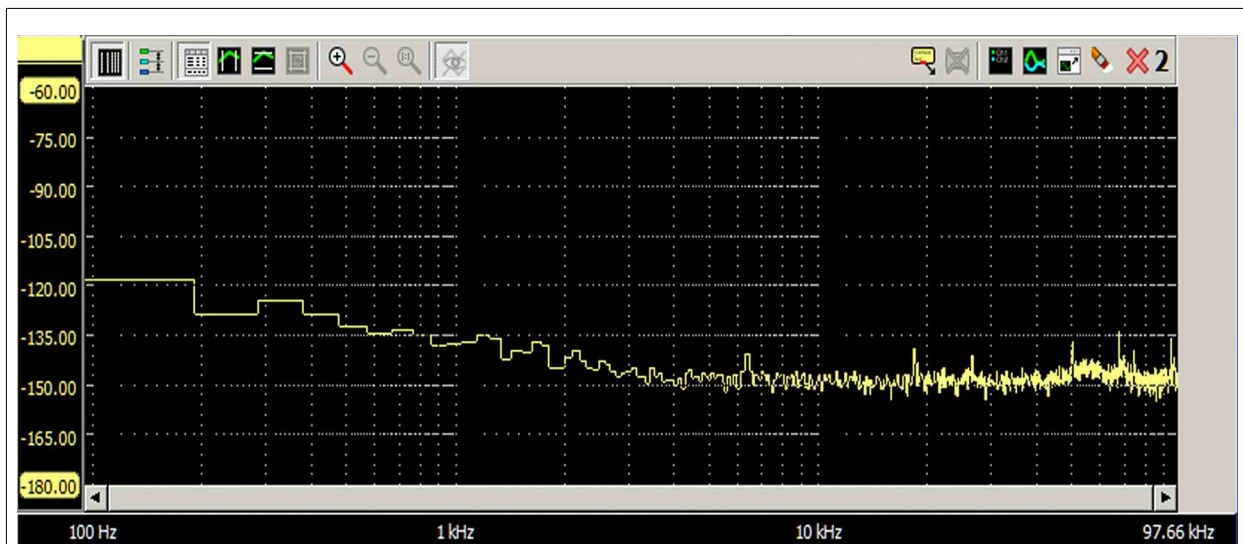

Figure 2 Wavetek ground noise, two prong AC
Wavetek is a company founded in 1963ⁱ and makes high quality, highly functional signal generators. Their Model 166 is a well regarded instrument from the 1970s and 80s that can be found used on eBay or at flea markets. Ours was almost resold but fortunately we kept it and it ultimately became the generator of choice for this ripple rejection measurement foray. The two spectra shown in figures 2 and 10 illustrate how lifting the AC earth connection at the power plug improves noise.
- Same as figure 2 EXCEPT AC 3rd prong ground wire connected
Compared to figure 2 notice an increase of garbage above 30kHz plus additional power line noise at 100Hz.